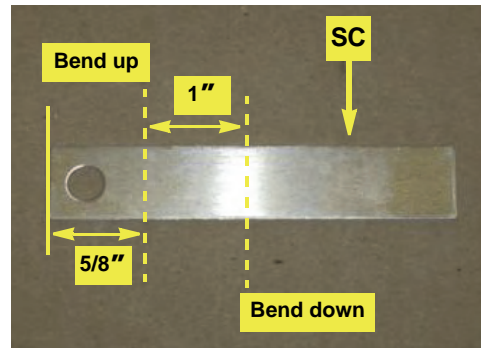

Figure 1b: Bent switch bracket (not to scale)
- b. Put a 90° bend in the switch bracket **SC** 5/8" from the pre-drilled end and another, in the opposite direction, 1" from the first bend (Figure 1b).